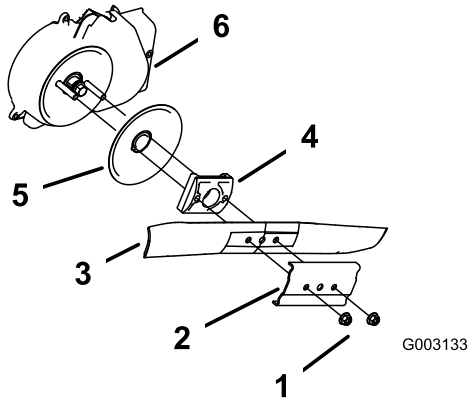

Figure 33
3. Remove the 2 blade nuts and the stiffener (Figure 33).
4. Remove the blade (Figure 33).
5. Remove the blade driver and disk (Figure 33).
6. Remove the blade-brake-clutch shield (Figure 33).
10. Install the blade and the stiffener that you previously removed (Figure 33).